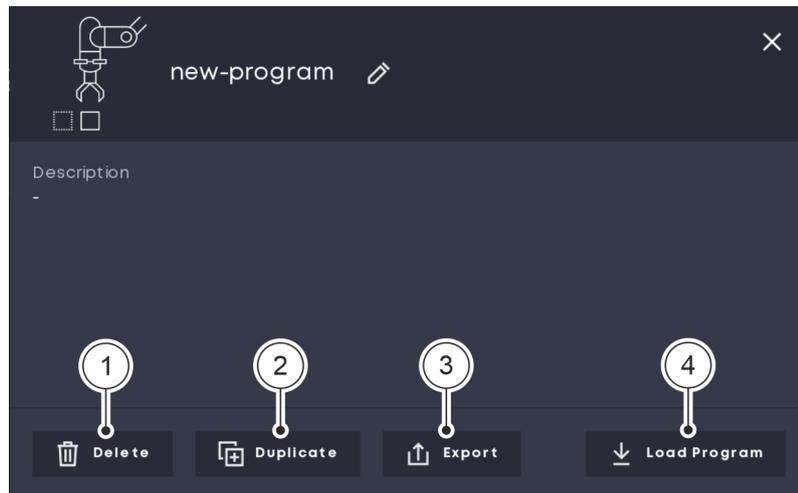

Fig. 5 Managing programs
- ▶ The menu shown in Fig. 5 appears.
- 'Delete' Fig. 5/①
- 'Duplicate' Fig. 5/②
- 'Export' Fig. 5/③
- 'Load Program' Fig. 5/④